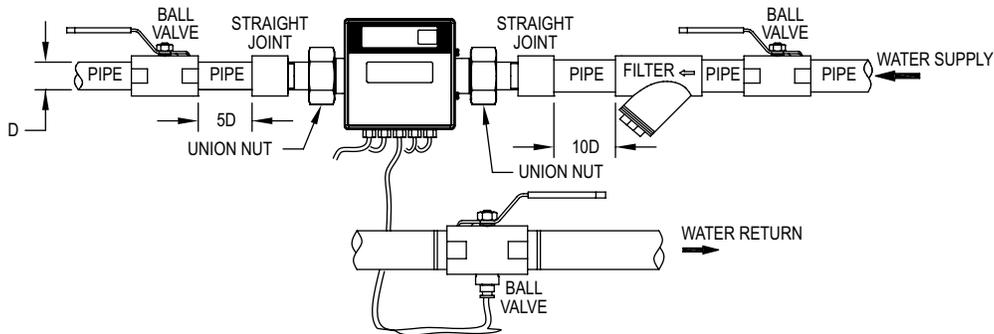
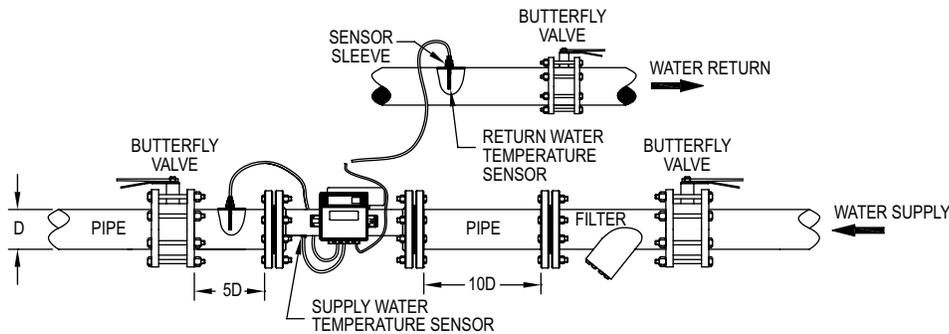

Figure 1: Installation diagram for TUF-150 to TUF-400
Figure 2: Installation diagram for TUF-500 to TUF-2000
1. Install the meter as shown in either Figure 1 or Figure 2.